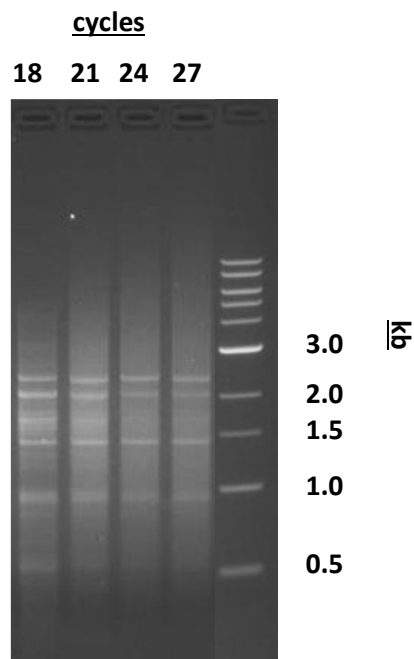

Figure 1. cDNA amplification by LD PCR
9. When the cycling is completed, analyse a 5 μl sample of each PCR product alongside 0.1 μg of 1 kb DNA size markers on a 1.2% agarose/EtBr gel in 1X TAE buffer. Compare your results to Figure 1 to confirm that your reactions were successful.